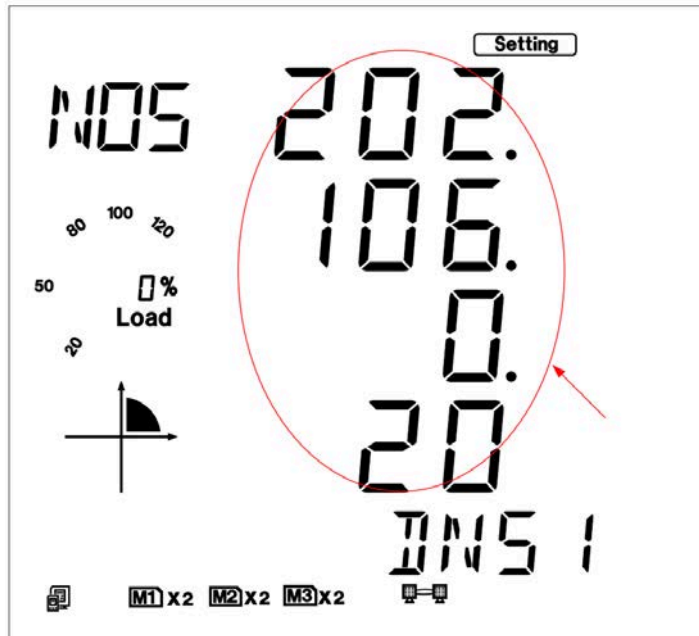

Fig 5-33
7. Set DNS Primary Server in the fifth setting page, such as 202.106.0.20. Press the "V/A" key to go to the setting page. Users may set the parameters pointed out in Fig 5-33. The cursor starts at the first digit. After setting the DNS Primary Server, press the "V/A" key to accept. Press the "P" key to go to the sixth setting page for DNS Secondary Server. Note: the DNS parameters must be set correctly to use the SMTP functions.